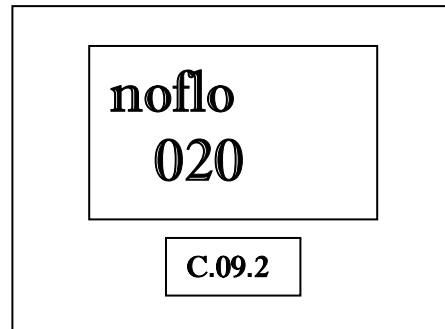

Figure 14
2. Use the 0 through 9 buttons on the keypad to enter a Flow Time Out value in seconds. For example, if a 20 second delay is entered, the volume display window looks like Figure 14.